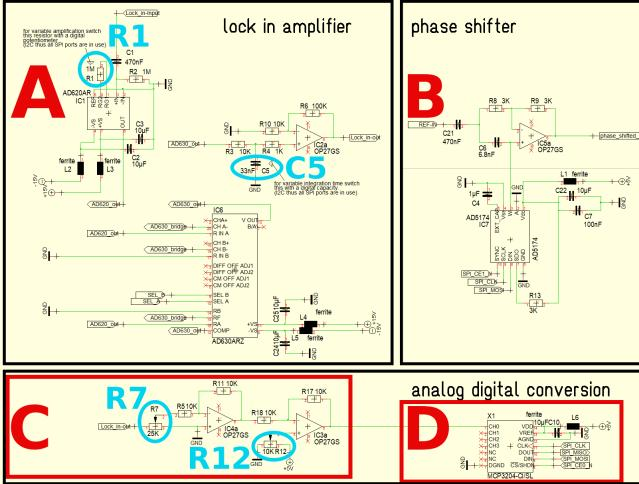

FIG. 2: The circuit plan of the Resosca main board shown in figure 1.
The response of the tuning fork comes over K4 to the lock_in_input in Fig. 2, A.
Already in the documentation of the AD630 is a circuit for lock in amplification presented. After some additional research^{2,3} the circuit (A) in Fig. 2 has been created.